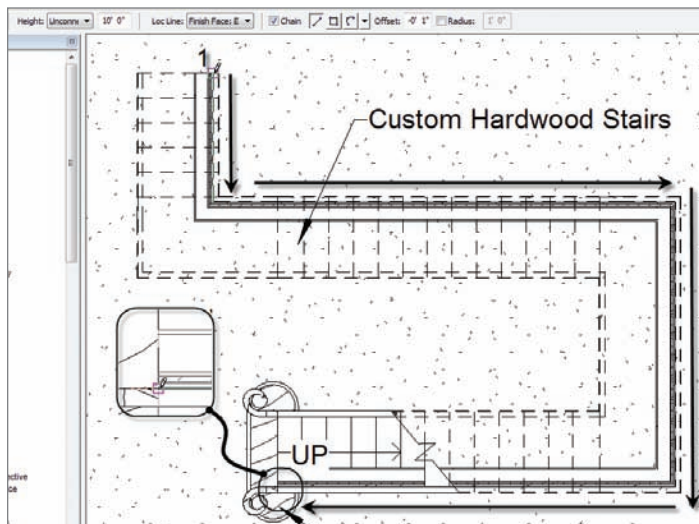

FIGURE 16.11 Placing the wall clockwise in the model
22. Set Offset to -1" (see Figure 16.11).
23. Draw the wall by snapping to the inside of the stringers, as shown in Figure 16.11. You want to go in a clockwise direction, so start with the northern part of the staircase, as illustrated by the 1 in Figure 16.11.